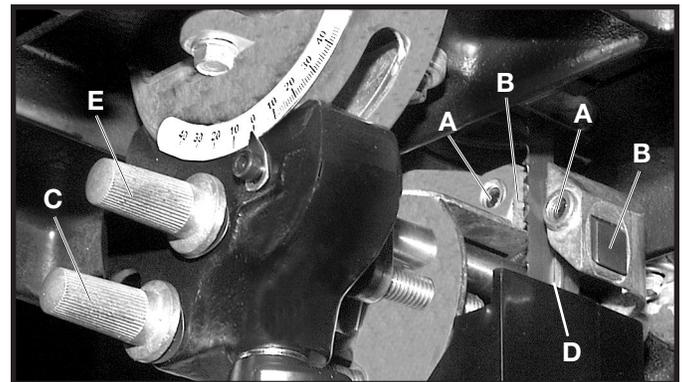

Fig. 56
2. Adjust the front edge of the guide blocks (B) Fig. 56 so that they are just behind the “gullets” of the saw teeth. Turn the knurled knob (C) Fig. 56 to make this adjustment. Check the support bearing (D) Fig. 56. It should not be touching the back of the blade.
3. Loosen the two screws (A) Fig. 56. Move the guides (B) as close as possible to the side of the blade, being careful not to pinch the blade. Tighten screws (A).
4. Turn the other knurled knob (E) to adjust the lower blade support bearing (D) Fig. 56 so that it is about $1/64$ " behind the back of the blade.